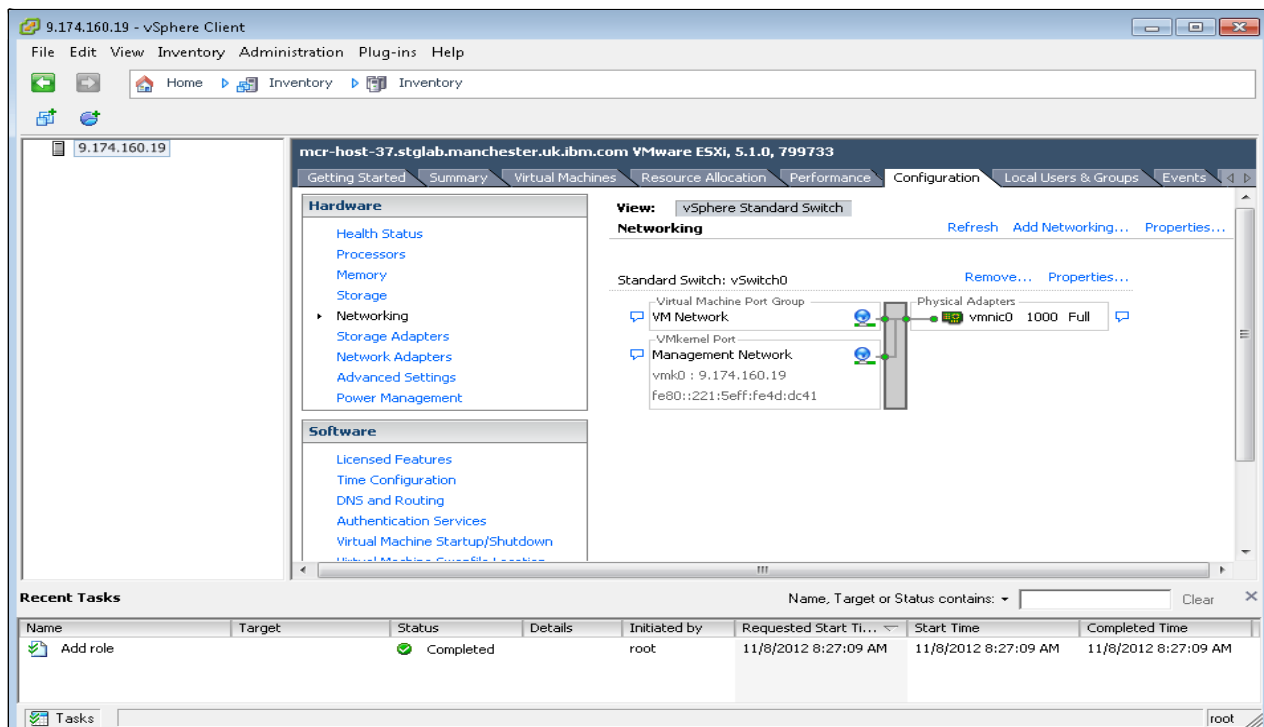

Figure 4-8 Select VMware networking
1. Connect to your ESXi server by using the vSphere Client. Browse to Configuration and select **Networking**, as shown in Figure 4-8.